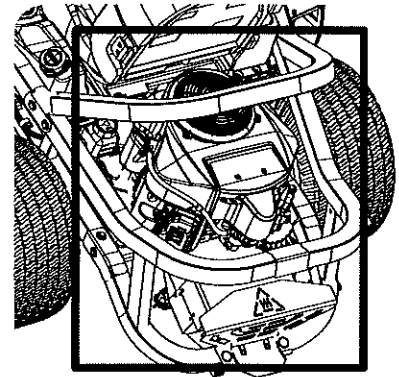

Figure 30
- Keep both sides of transmission cooling slots, exhaust manifold, around fuses, all wiring and harnesses, muffler pipe, muffler shield, engine intake screens and cooling fins, etc clear of grass clippings and leaves. See Figure 30.